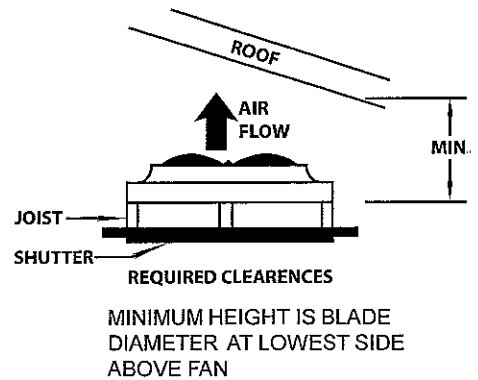

Figure 3
2. Also check that attic clearance above the fan to the roof is adequate – a minimum of fan blade diameter from top of joist to rafter is needed above the fan at the lowest side. (See Fig. 3)